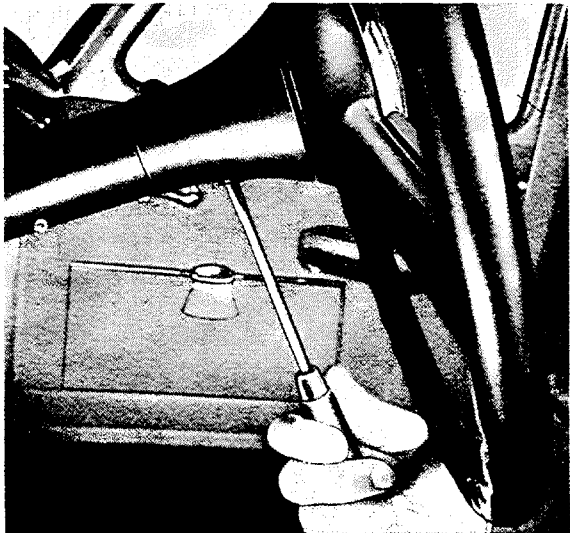

Fig. L 1/1
2. Loosen and remove the upper clamping screw (5) of the steering coupling.
4. Back out the grub screw from the steering column jacket (Fig. L 1/1). Set the steering lock to the "Garage" position and pull the steering tube out of the steering coupling and the wiring harness out of the steering.
5. Pull the cotter pins out of the castle nuts (2) on the ball heads of the steering gear arm, unscrew the castle nuts and then use Bell-shaped Puller 186 589 10 33 to remove the two ball heads (Fig. L 1/2).